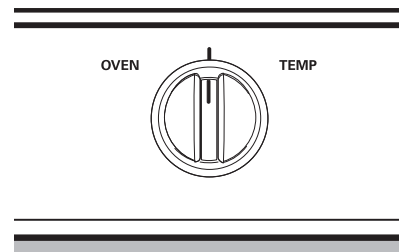

Fig. 1
2. Turn the oven temperature control knob (See Fig. 1) to the desired oven temperature.